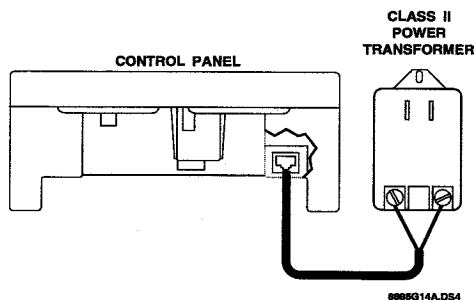

Figure 2. Installing the Class II Power Transformer
- 2) Insert the power plug into the power jack on the back of the panel as shown in Figure 2.